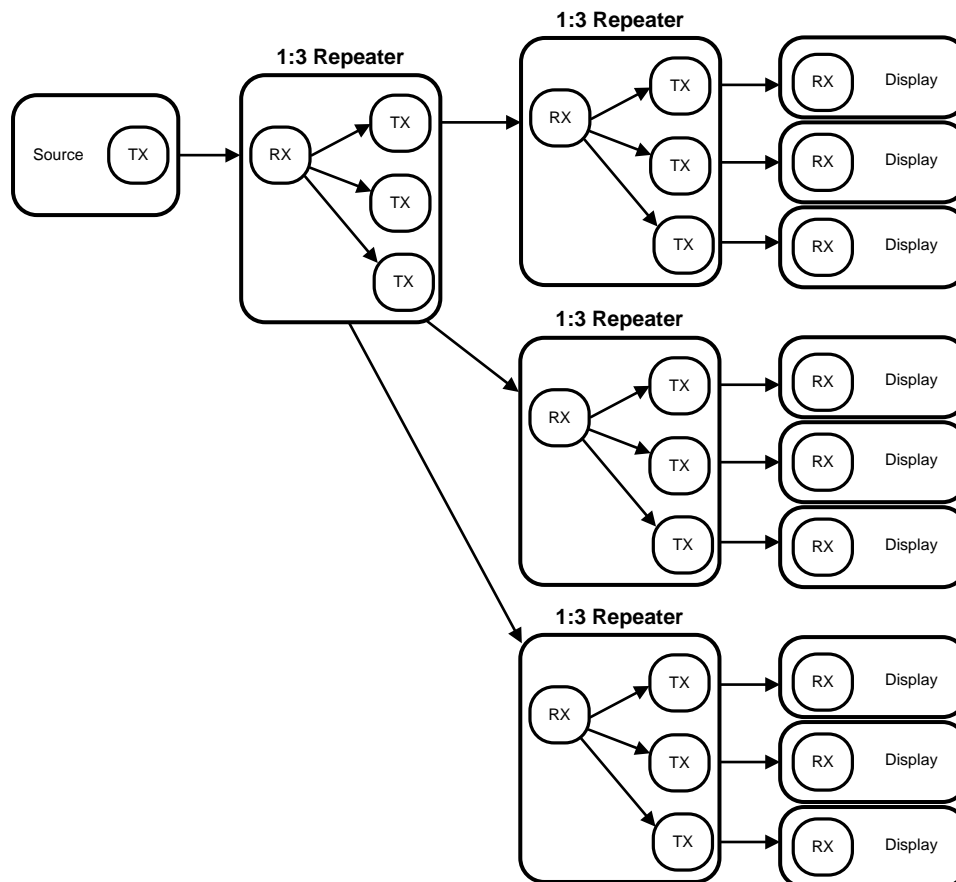

Figure 19. Maximum Repeater Application
In the repeater application, in this document, the DS90UB921-Q1 is referred to as the Transmitter or transmit port (TX), and the DS90UB926Q-Q1 is referred to as the Receiver (RX). Figure 19 shows the maximum configuration supported for Repeater implementations using the DS90UB921-Q1 (TX) and DS90UB926Q-Q1 (RX). Two levels of Repeaters are supported with a maximum of three Transmitters per Receiver.
(1) Voltage indicated assumes nominal VDD33.